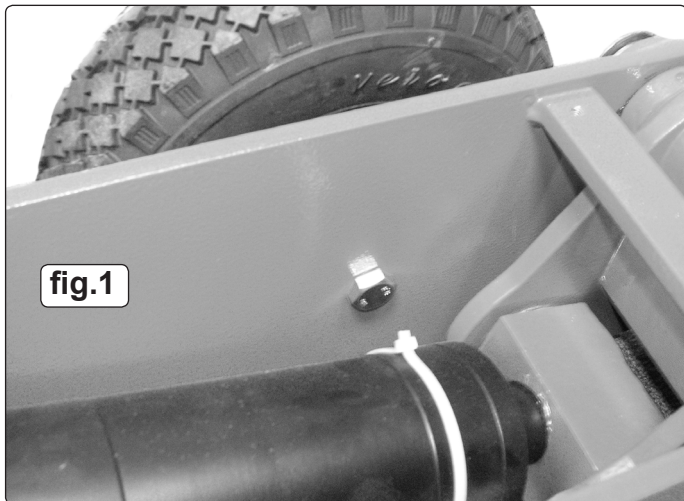

fig.1
- 3.2. Depending on model of Jack, there may be a number of pre-drilled holes in the side plates, select a position that is in between the existing wheels and fit a bolt through the hole from the inside (see fig.1) and screw an axle onto the bolt.